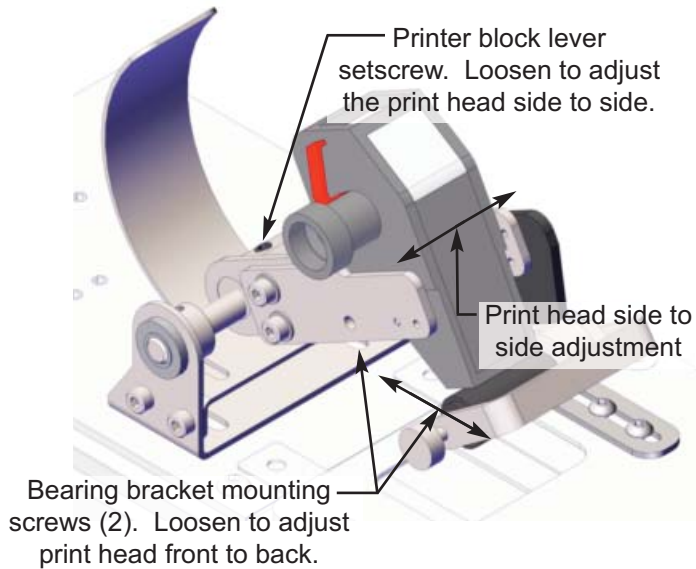

Figure 3.16
O. PRINthead LOCATION - SIDE TO SIDE: Figure 3.16
P. PRINTHEAD LOCATION - FRONT TO BACK: Figure 3.16